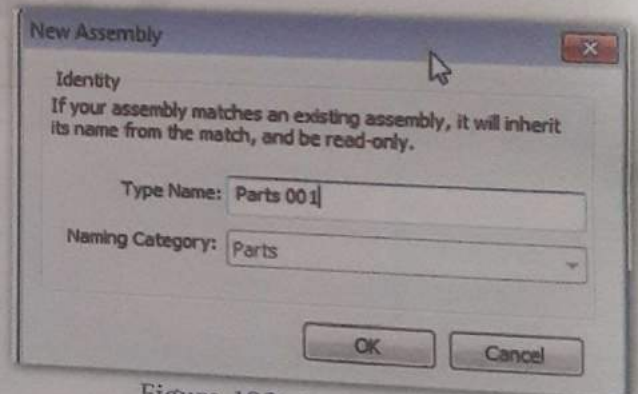

Figure 102: Creating Assembly
4. Click ok to finish. And add assembly to the project browser. (Figure 102)